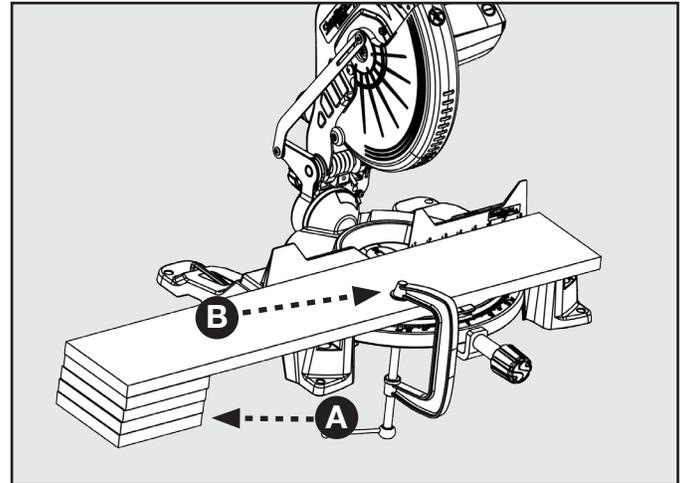

FIGURE 19
Long workpieces need extra support. Supports (A) should be placed along the workpiece so it does not sag. The support should let the workpiece lay flat on the base of the saw and work table during the cutting operation as shown in Figure 19. Use the optional work clamp or a C-clamp (B) to secure the workpiece to the miter saw table.